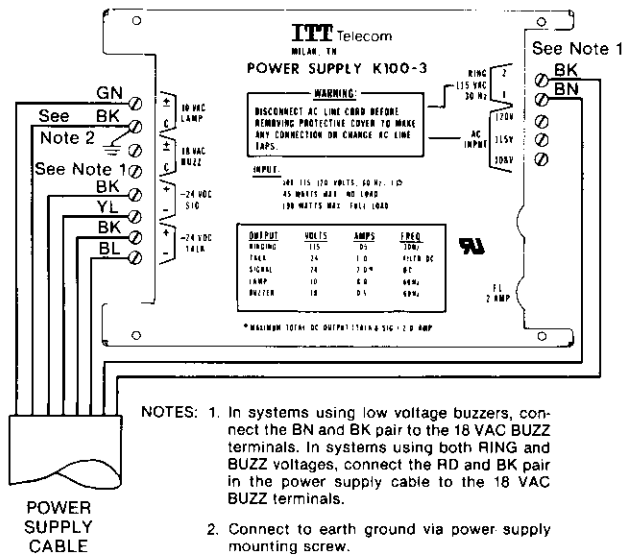

Figure 2: Connecting Scheme for 501A KSU
- (b) Refer to Figure 2 and connect the leads in the power supply cable as follows:
- (1) Connect the BL/BK pair to the - 24 VDC TALK terminals. Connect the black lead to the (+) terminal; connect the blue lead to the (-) terminal.
- (2) Connect the YL/BK pair to the - 24 VDC SIG terminals. Connect the black lead to the (+) terminal; connect the yellow lead to the (-) terminal.
- (3) Connect the GN/BK pair to the 10 VAC LAMP terminals. Connect the black lead to the (C) terminal; connect the green lead to the (±) terminal.